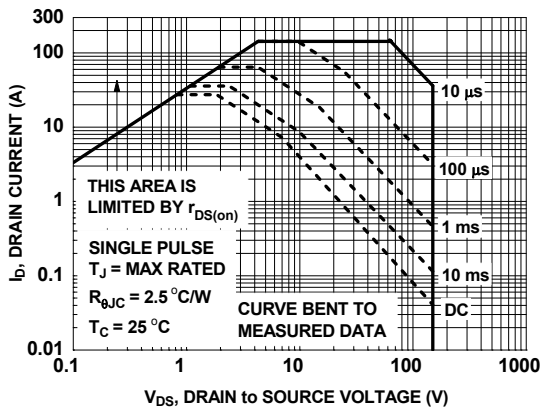

Figure 11. Forward Bias Safe Operating Area
4. Pulsed I_d please refer to Fig 11 SOA graph for more details.